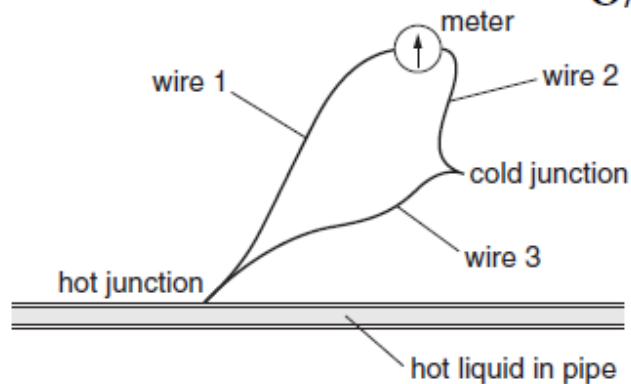

Fig. 7.1
- 7 Three wires and a meter are used to construct a thermocouple for measuring the surface temperature of a pipe carrying hot liquid, as shown in Fig. 7.1.